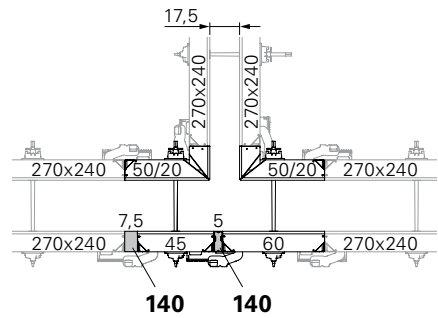

Fig. B4.02
- Wall thickness 17.5: Fig. B4.02